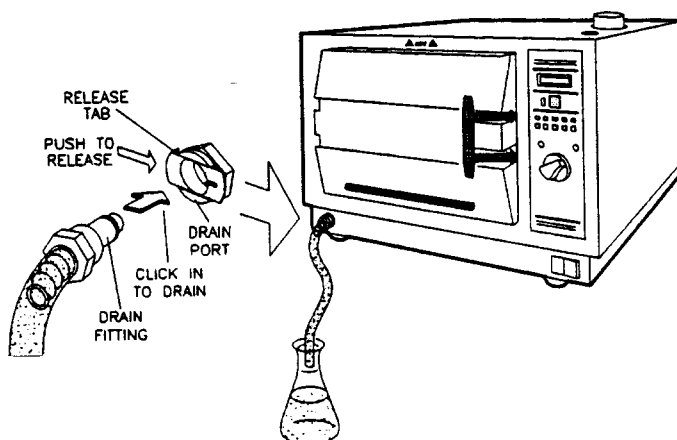

Figure 30: Draining the Waste Tank
- Drain the waste tank when the VAPO indicator lights on the control panel (see Figure 30).